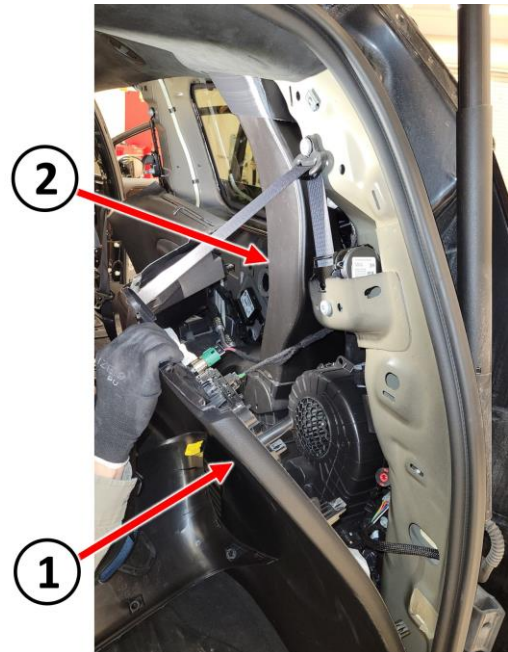

Figure 14 – Quarter Panel Trim
34. Using a trim stick or equivalent, starting at the top, release the fasteners at the rear edge of the quarter trim panel (Figure 14).
35. Pull straight away at the upper rear corner of the quarter trim panel to access the ceiling distribution duct (Figure 14).